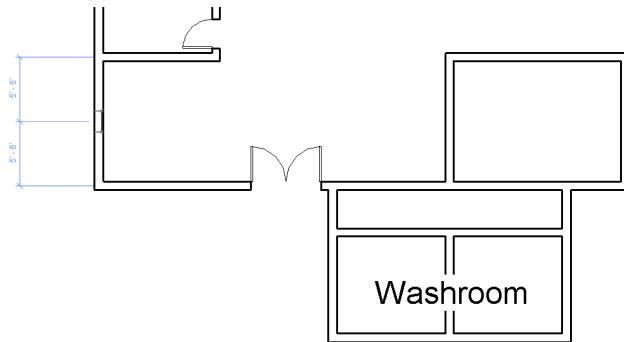

Figure 3-82 Adding the window at the Reception area
- e. Place the windows at the exact location as per the given dimensions, refer to Figures 3-82 through 3-86.
4. Move the cursor close to the exterior wall of the reception to display window symbol, as shown in Figure 3-82. Add the window by clicking on the inner face of the exterior wall; the window is created at the specified location.